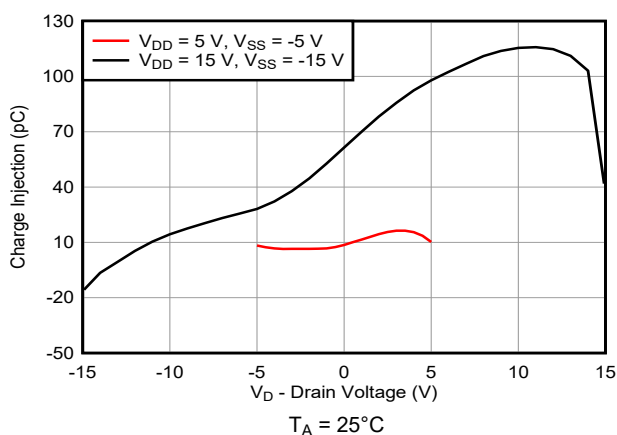

Figure 8-2. Charge Injection vs Drain Voltage
The low on-resistance of TMUX6236 and ultra-low charge injection performance make this device an excellent choice for implementing high precision industrial systems. The TMUX6236 contains specialized architecture to reduce charge injection on the Drain side (D) (for more details, see Section 7.2.7). Figure 8-2 shows the plot for the charge injection versus source voltage for the TMUX6236.